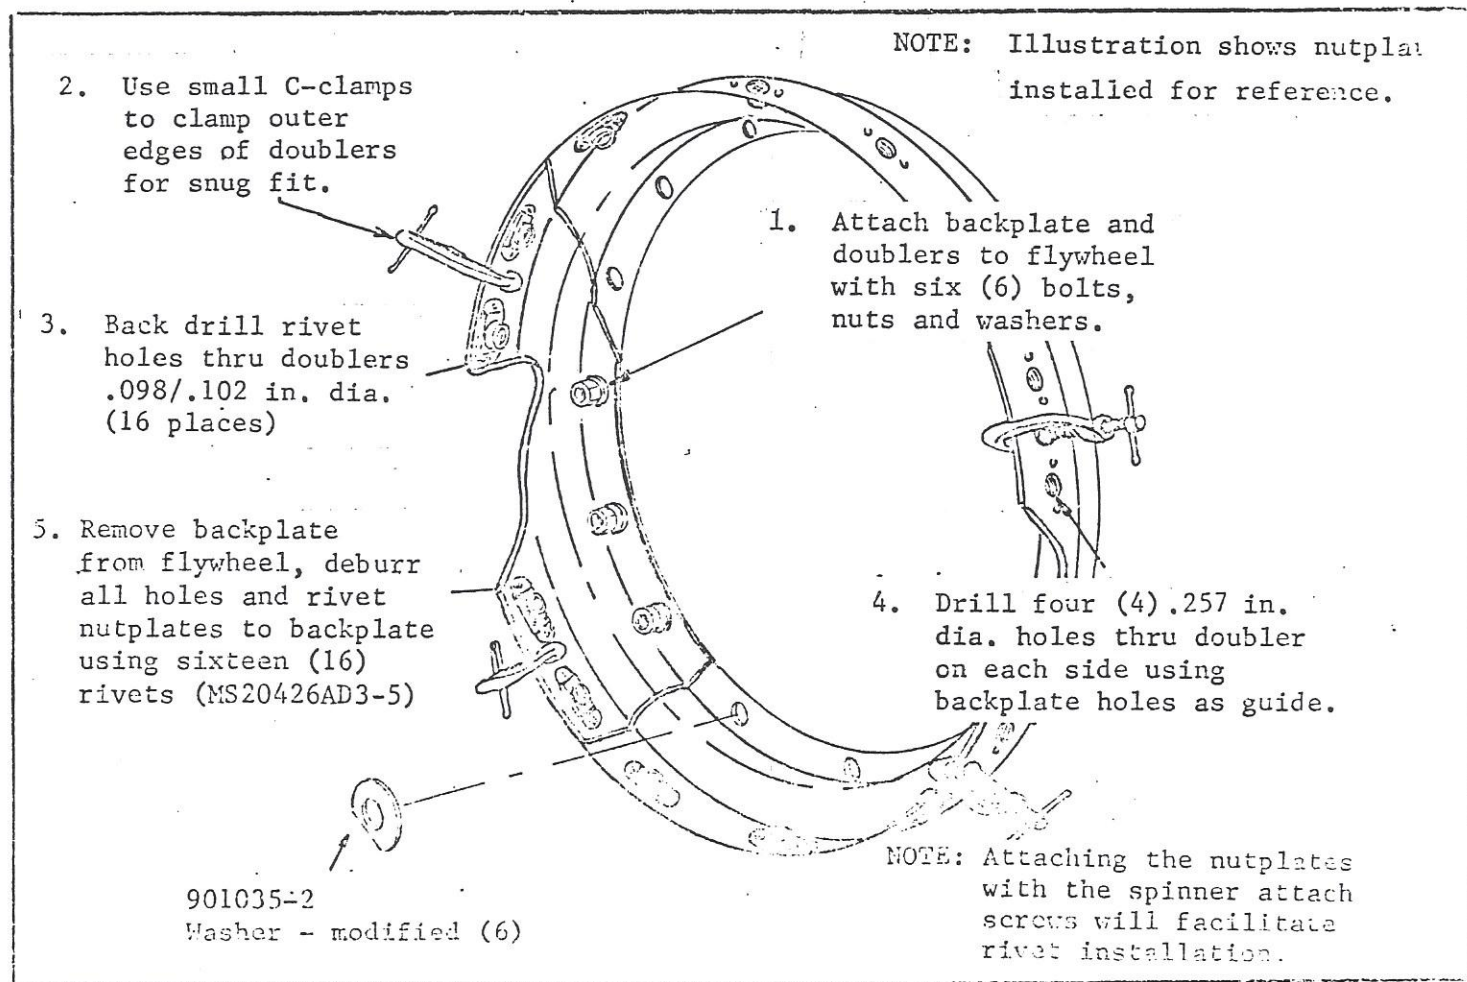

Figure 5. Doubler Installation
4. Refer to figure 5 and drill out the rivets that attach the eight (8) nut plates to the backplate (Two (2) nutplates adjacent to each cutout - both sides). Save the eight (8) nutplates.
5. Position the two (2) doublers (506004-2) in the backplate and attach the backplate to the ring gear support assembly using six (6) bolts, nuts and washers. Using small C-clamps, clamp the outer edges of the doublers to the backplate.
10. Install the modified backplate to the engine exactly as removed, with the exception that six (6) washers - modified (part number 901035-2) are to be located against the forward face of the backplate not covered by the doublers and one (1) AN960-416 washer is to be used on top of each modified washer. Be sure to locate the trimmed edge of the modified washers adjacent to the radius in the backplate as shown on figure 5.